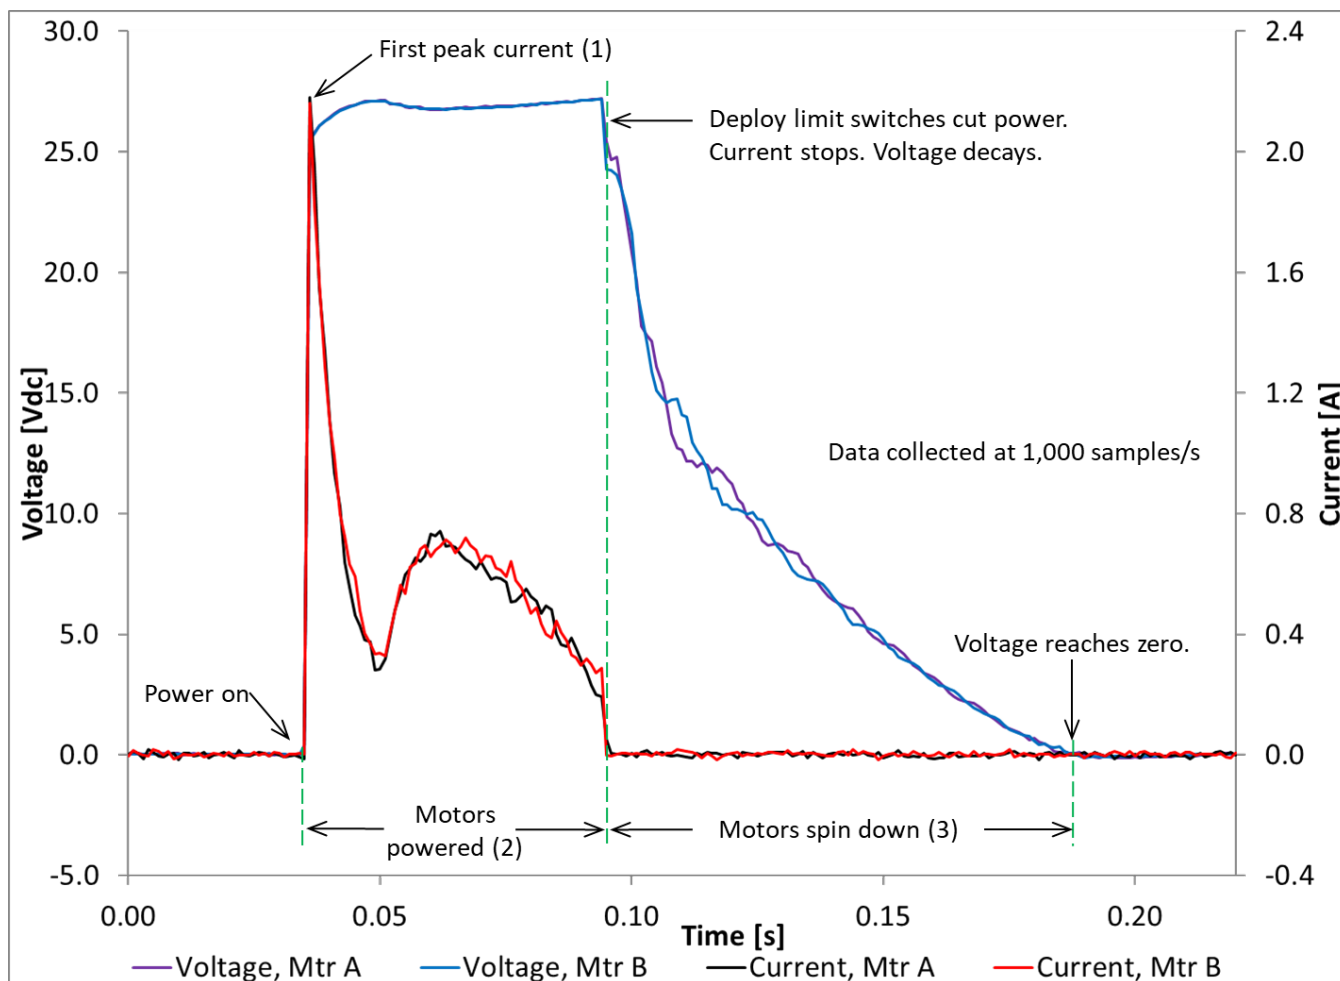

Figure 11-5: Example Deploy voltage and current profiles at NTP
11.4.6	<p>To Deploy the Lightband:</p> <ol style="list-style-type: none"> 1. See Figure 11-5 and Table 11-1 for the anticipated current draw and power duration. 2. If a force was applied per step 11.4.1 the Upper Ring will not move. This force will be removed at a later step, allowing the Separation Springs to extend. 3. Designate a person to watch the power source output display. 4. Turn on the power source output. 5. Verify the oscilloscope trigger is active and ready to acquire data. 6. Activate the timer relay. This will send power to the motors and Deploy the Lightband. The Lightband should Deploy in ≤ 0.1 s and the Deploy limit switches on the Motor Bracket Assembly will automatically cut power to the motors. <p>Manually cut power if the current limit is reached or the timer relay runs longer than specified. Then contact PSC per section 5. A visual inspection of the Lightband may be performed, but do not change configuration.</p>
11.4.10	<p>Figure 11-5 shows example Deploy voltage and current profiles. Complete Table 11-1 to verify all parameters are within tolerance. Single data point exceedances are acceptable. Also, a slow sample rate may alias data. Do not filter data. Contact PSC immediately if a discrepancy is found.</p> <p>Remember to account for non-zero offsets in the voltage or current measurements.</p>